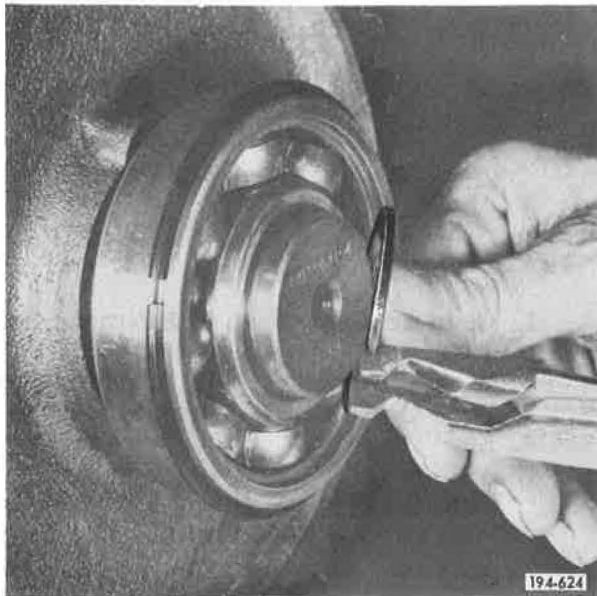

Figure 5-753. Removing Snap Ring
1. Remove front countershaft front bearing retaining snap ring, using snap ring pliers J-25445, or equivalent. See **Figure 5-753**.